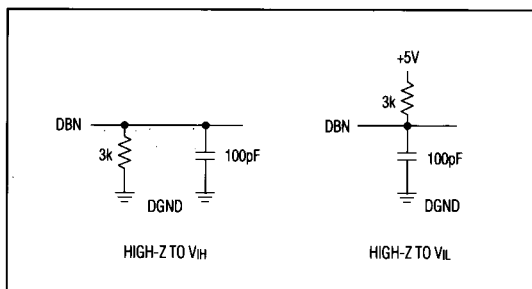

Figure 3. Load Circuits for Access Time Test ( $t_{11}$ )
**Note 6:** t11, the time required for an output to cross 0.8V or 2.4V, is measured with the load circuits of Figure 3.